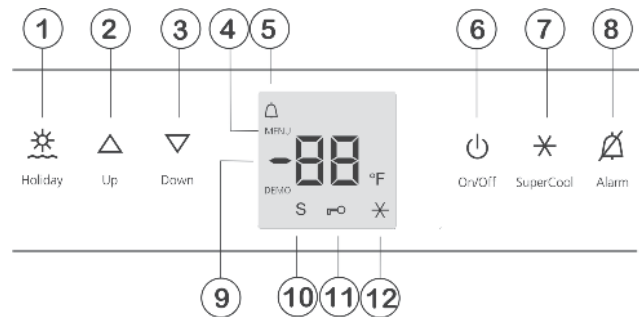

Fig. 3
- ▶ Press On/Off button *Fig. 3 (6)*.